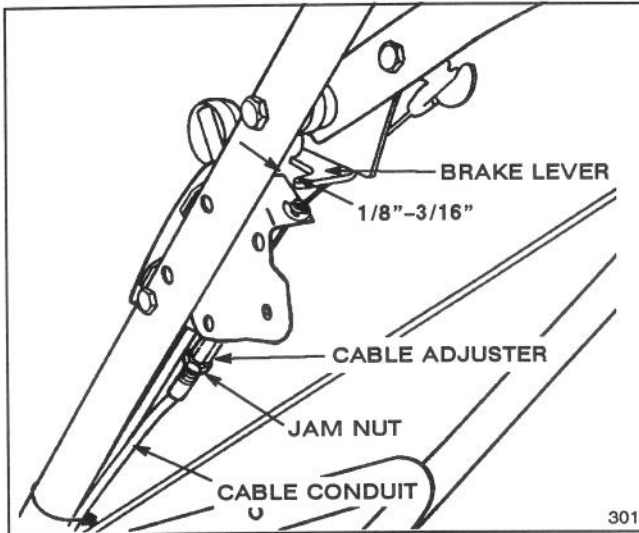

Figure 19
2. CHECK ADJUSTMENT (Fig. 19)—Move control bar toward handle until slack in wire is removed. Gap between brake lever and handle must be $1/8''-3/16''$. See step 3 for adjustment.
3. ADJUST CABLE CONDUIT—Loosen jam nut on cable adjuster (Fig. 19). Insert $1/8''-3/16''$ object between brake lever and handle. Adjust cable conduit until slack is removed. Then tighten jam nut.